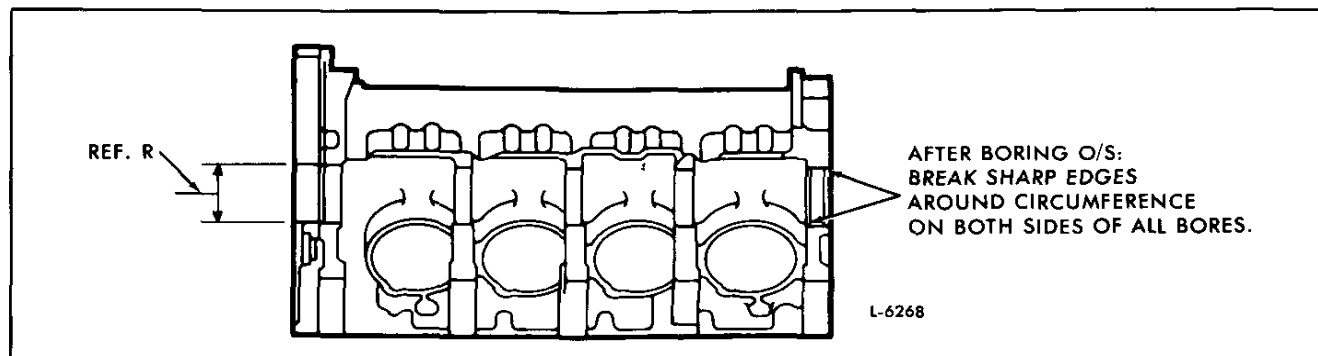

Fig. 7 - Camshaft Bore Inspection
If on inspection, the cylinder block camshaft bore, refer to R, Fig. 7, is found to be greater than 69.15 mm (2.7224") due to wear or a bearing spinning, it will be necessary to machine all the camshaft bores to accept an oversize bearing. If blueing of the cylinder
3. After the cylinder block camshaft bores have been bored oversize, use emery cloth to break the sharp edges of the bores (Fig. 7).